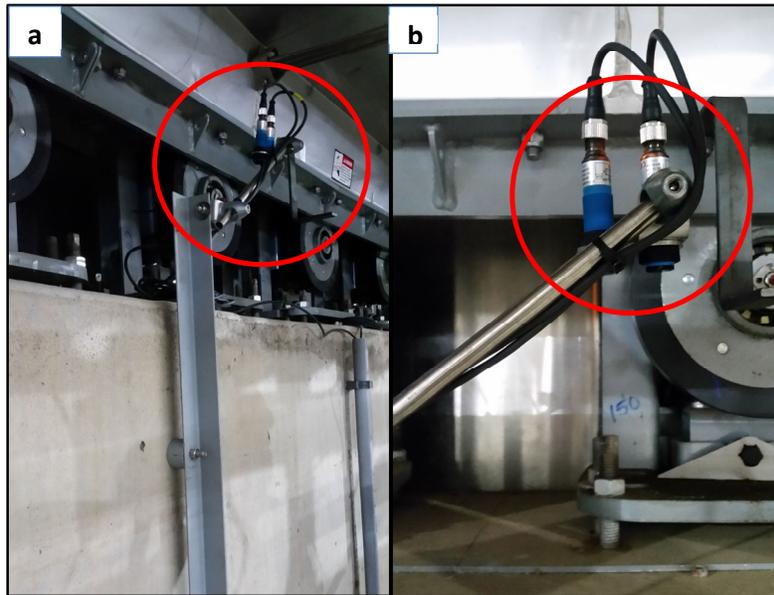

Figure 33. Typical overhead bail sensor arrangement
6. Select a tag for the Stall Sensors to detect. Consider potential mounting options. See *Figure 33* through to *Figures 36*.
This example shows sensors mounted above the cows detecting a metal tag close to the Stall Gate ram (Figure 33)